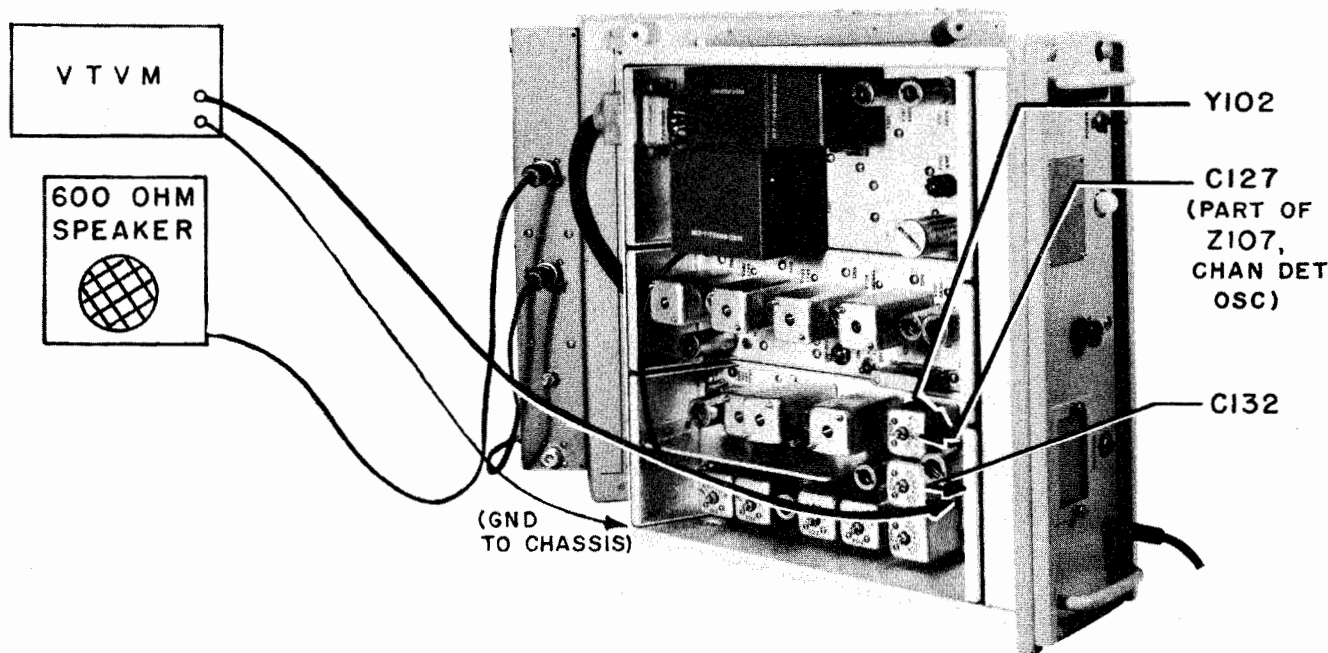

Figure 7-7. Channel Determining Oscillator Alignment
- (4) Peak channel determining oscillator (30.2 - 37.75 Mc). (See figure 7-7.)
- (1) Insert the channel crystal Y102 in socket.
- (2) Connect the receiver and vacuum tube voltmeter as indicated in figure 7-7 and proceed with alignment as outlined in table 7-5